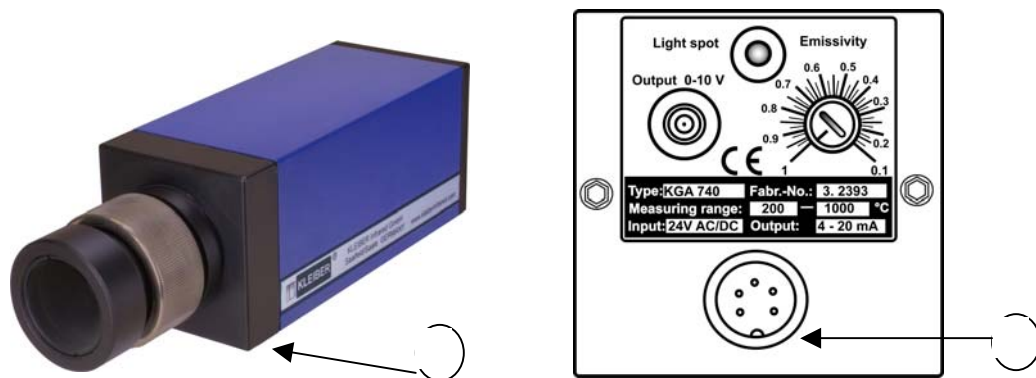

Fig. 8 Pyrometer connections
2. Connect, if necessary (only in case of ambient temperatures more than 40°C) the water cooling (position 1, Fig. 8).
3. Connect the coloured wires of the 5-pole connecting cable (item B, Fig. 8) to appropriate connections of a switchboard. For wire configuration please see legend to fig. 8.
4. Connect the 5-pole connecting cable to the pyrometer at the back of the instrument (item 2, Fig. 8) and to the power supply.